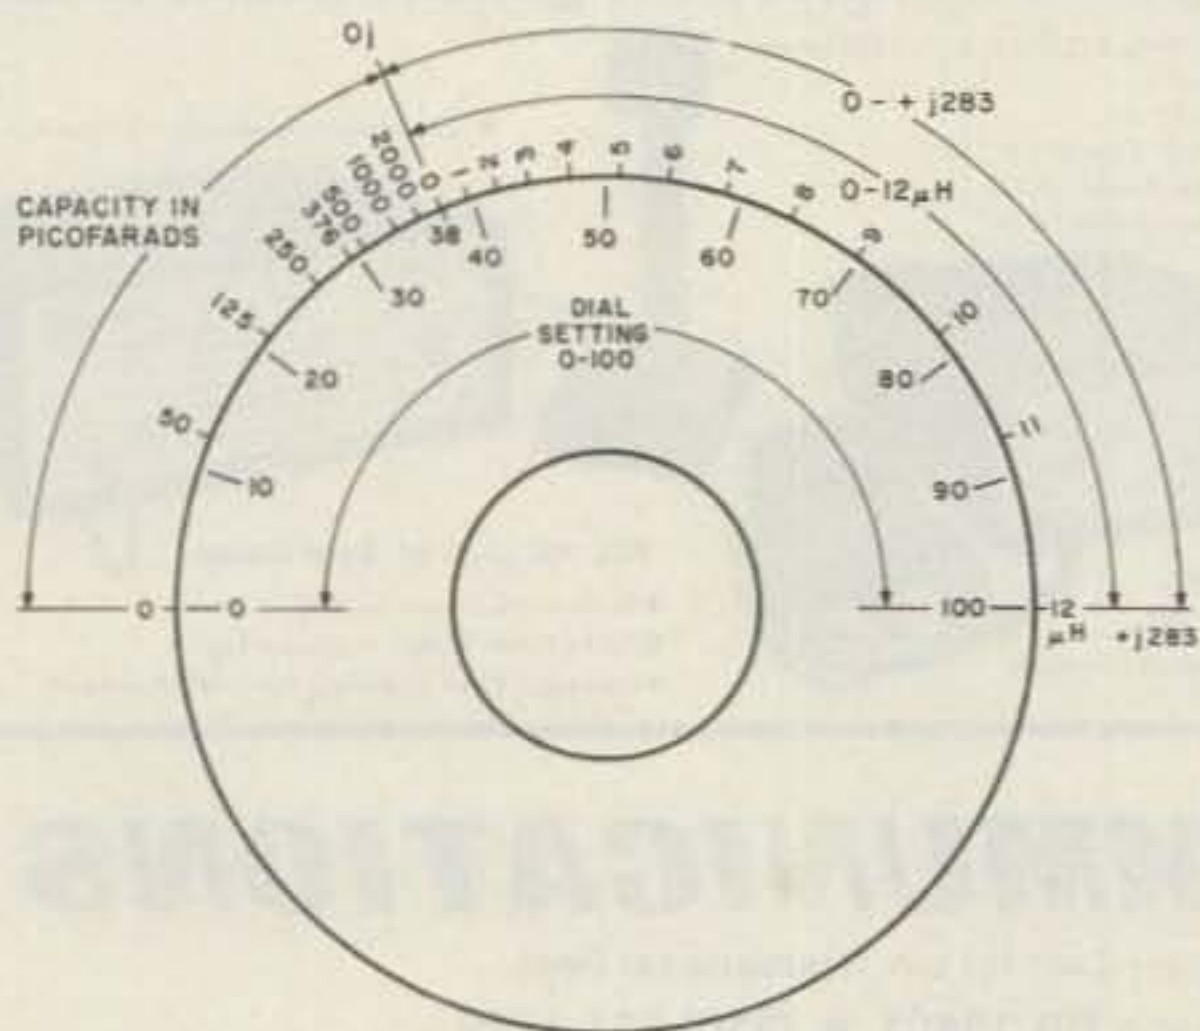

Fig. 3. For 19.2-uH fixed inductance, 3.75 MHz.
responding to 94 picofarads. The dial setting is $(94)(100) / 250 = 38$. The dial is shown in Fig. 3, where the values of inductance and their corresponding dial settings also are shown.
Using the same method of calculation, it's easy to show the equivalent capacity for various dial settings between 0 and 38. This is shown in Fig. 3 for convenience, and a closer look at
Fig. 3 shows a remarkable feature. With a single variable condenser, it is easy to obtain both an equivalent variable inductor of 0-12 microhenrys, and an equivalent variable condenser of between 0 and a couple of thousand picofarads. And it's all done with a 250-picofarad variable condenser and a small fixed inductance!
an easily-controllable reactance variation. We are not particularly interested in what the actual inductance or capacity is for any dial setting as we vary the frequency over our band limits. The actual calculated values for Fig. 3, for the fixed inductance of 19.2 uH, are: (1) for 3.5 MHz, an equivalent inductance of 11 microhenrys and a zero inductance dial setting of 43; (2) for 3.75 MHz, the two values are 12 and 38, and (3) for 4.0 MHz, they are 12.9 and 33.